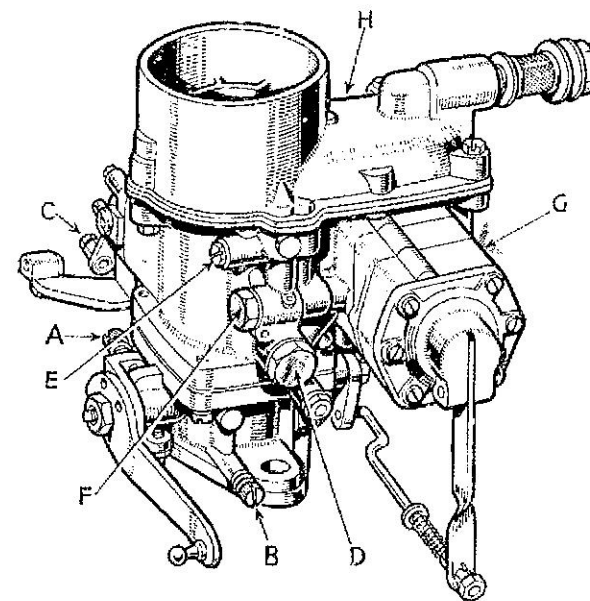

Fig. 19. Carburettor.
Prior to making this adjustment it is important to ensure that the engine is in good mechanical condition; the compressions should be equal, the ignition system in order and the induction manifold free from air leaks. The throttle "pull-off" spring must pull the throttle right back to its stop, i.e., closed position; also make sure that the volume control screw (B) has not been broken or distorted by over-tightening, in which case a replacement must be obtained. (Fig. 19).
It is most unlikely that trouble will be experienced with blocked jets, but Fig. 19 will help you to locate and remove the jets which may need cleaning. These are:—